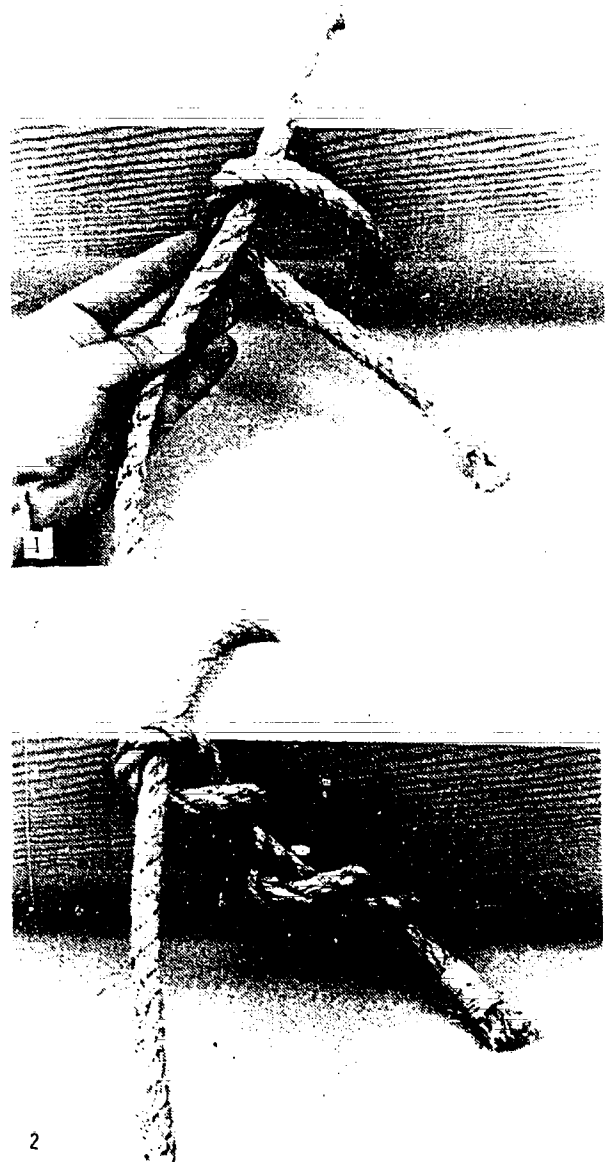

Figure 7-23. Tying a Timber Hitch
6. The **timber hitch** is used to fasten rope to steady loads of posts, planks, timbers and pipes. The knot will loosen when the tension or pull is relieved. The hitch begins with a half hitch and is completed by turning or twisting the running end around itself two or three times following the lay of the rope (Figure 7-23).